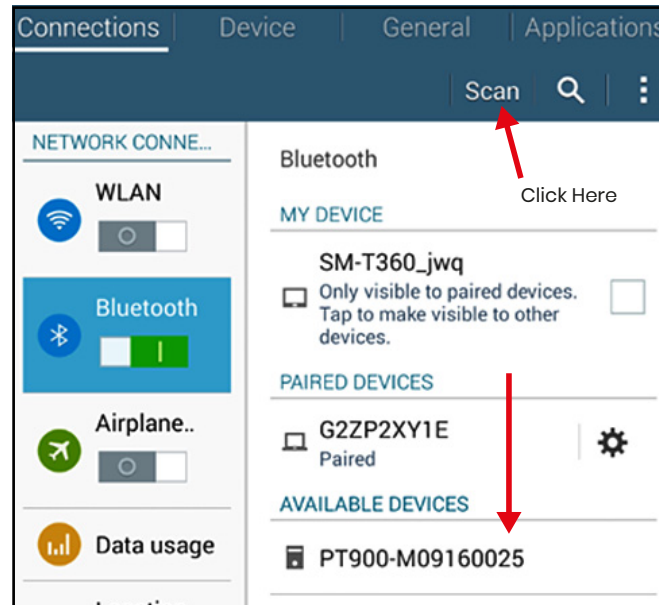

Figure 65: Available Devices List
8. In Android, APP will search for all available transmitters via Bluetooth. After the scan has been completed, any new transmitters which were found are listed in the AVAILABLE DEVICES section of the tablet screen (see red arrow in Figure 65 below). Click on your transmitter to pair it with the tablet via Bluetooth.